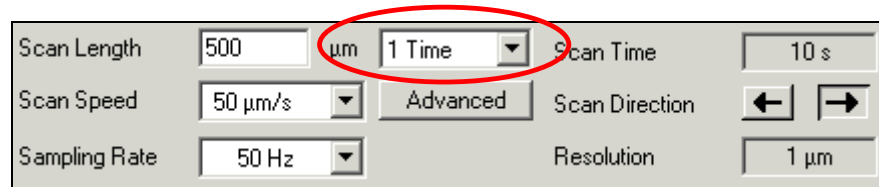

Figure 7.3 Recipe area where multiple scans can be set up.
2. From the recipe area open the pull-down menu next to the **Scan Length** that indicates how often the scan is to be executed. Refer to Figure 7.3.